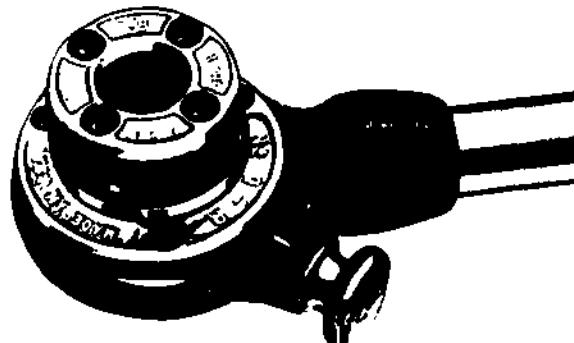

Figure 1-18. Drop-Head Threader
c) A few of the modern types of hand pipe threaders (stocks and dies) are shown in Figures 1-18 to 1-20.
A drop-head threader (Figure 1-18) is used for cutting threads on NPS $\frac{1}{2}$ to NPS 2 pipe, or similar threaders for NPS $\frac{1}{2}$ to NPS 1 pipe. Die heads must be changed for different pipe sizes.